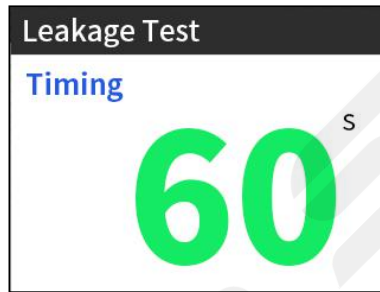

Figure 5.6
- 2) Select [Leakage test] on the main interface and press [Run] button. The system will start to work. Judge the leakproofness of the injector by observing whether the injector is dribbling or not. Typically, the dribbling should be no more than one drop in one minute (or technically). The time set in the system is 60 seconds by default, and the pressure value set for leakage test function should be 10% higher than that set by the manufacturer. At this time, the pressure can be adjusted via [Pressurization] and [Depressurization] buttons, as shown in Figure 5.6.